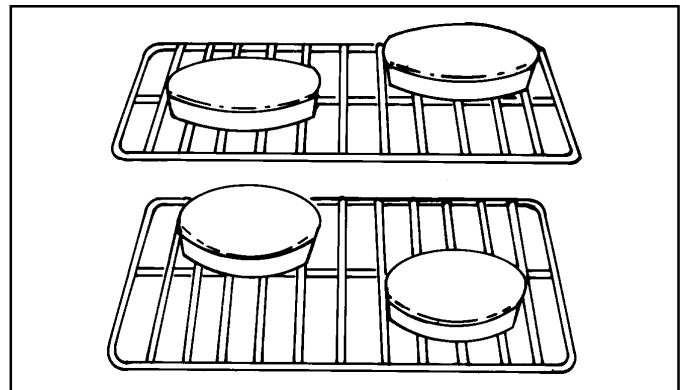

Figure 21
- Keep pans and baking sheets 2 inches from oven walls. (Figure 21)